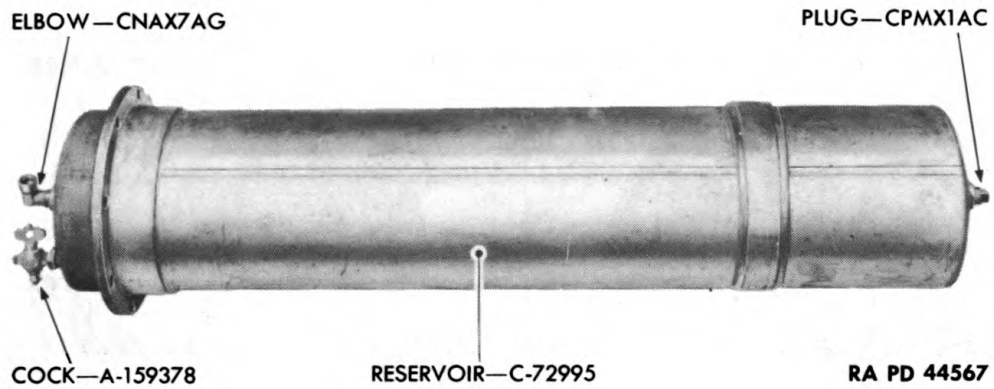

Figure 306—Air Reservoir
f. Air Reservoir (fig. 306). Check condition of air reservoir. Fill reservoir with air and listen for leaks. Replace a leaky or damaged air reservoir. Do not immerse reservoir in water.